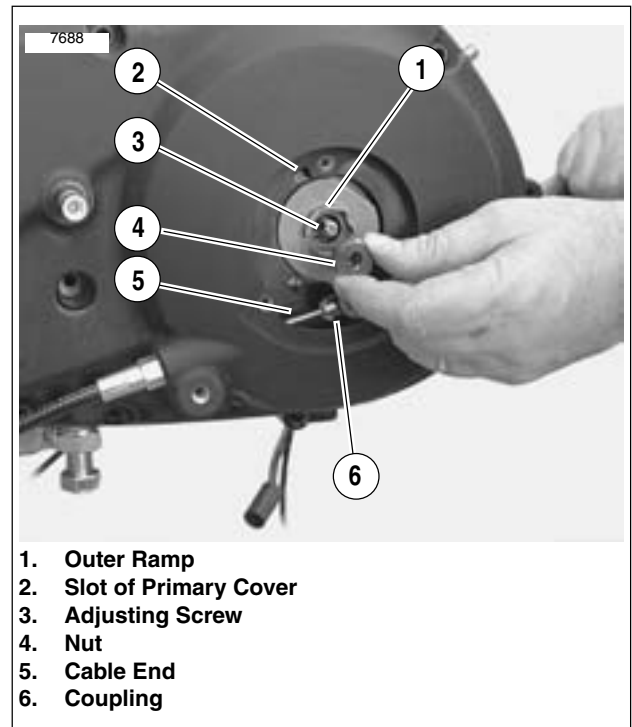

Figure 6-18. Nut & Outer Ramp
2. See Figure 6-18. Install ramp assembly.